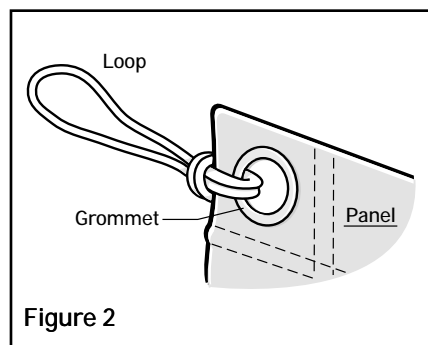

Figure 2
5. Tie one of the supplied cords to the panel as shown (See Figure 2).